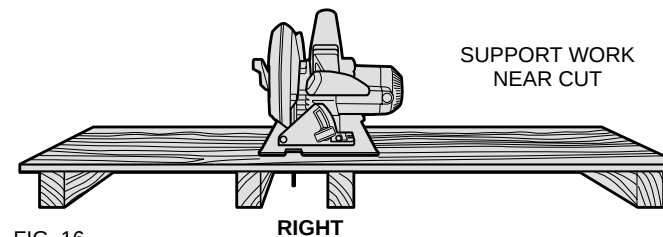
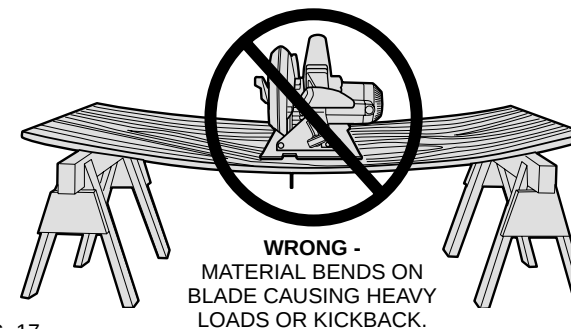

FIG. 16
FIG. 17
To avoid kickback, DO support board or panel NEAR the cut, (Figure 16). DON'T support board or panel away from the cut (Figure 17).
Support the work so that the cut will be on your right. Place the wider portion of the saw shoe on that part of the work piece which is solidly supported, not on the section that will fall off when the cut is made. As examples, Figure 16 illustrates the RIGHT way to cut off the end of a board, and Figure 17 the WRONG way. Always clamp work. Don't try to hold short pieces by hand! Remember to support cantilevered and overhanging material. Use caution when sawing material from below.
- B. Cutting through material supported at the outer ends only (see Figure 17). As the material weakens it sags, closing down the kerf and pinching the blade.